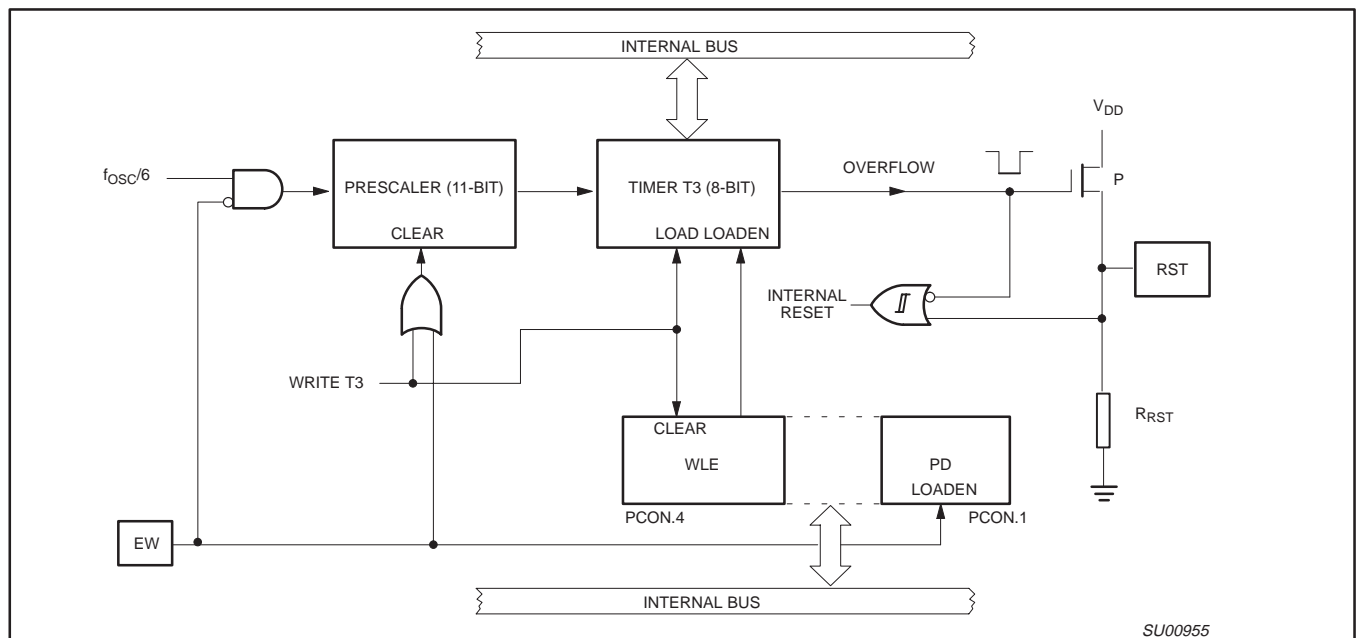

Figure 18. Watchdog Timer
**Watchdog Circuit Description:** The watchdog timer (Timer T3) consists of an 8-bit timer with an 11-bit prescaler as shown in Figure 18. The prescaler is fed with a signal whose frequency is 1/12 the oscillator frequency (1 MHz with a 12 MHz oscillator). The 8-bit timer is incremented every “t” seconds, where: